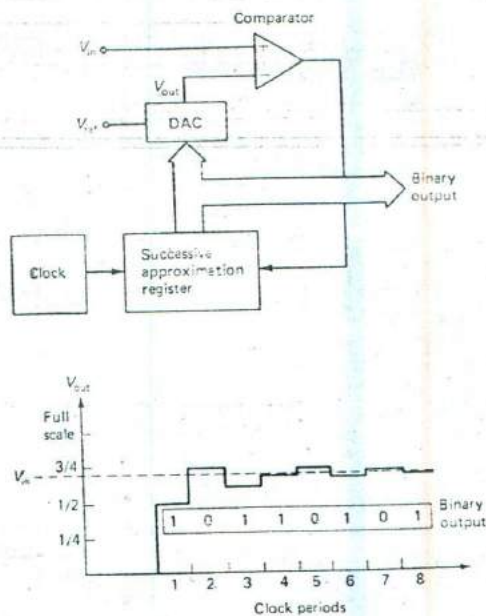

Fig. 13-8 Successive approximation converter.
Figure 13-8 shows the *successive approximation converter*, which is much faster. It produces a conversion delay of only N times the cumulative settling time. With an 8-bit DAC, the total delay will be eight clock periods regardless of the value of the analog input signal. The conversion process begins with all DAC inputs set to zero. The MSB bit is set at the first clock pulse. This produces a V_{out} to the comparator equal to one-half the full-scale value. If the comparator switches, the MSB is cleared, and the next most significant bit is set. If the comparator does not switch, the MSB remains set, and the next most significant bit is set. The process repeats N times as each bit is tested. A typical waveform at the DAC output as the conversion proceeds is illustrated by Fig. 13-8. Note that the binary output will show a 0 at every bit position where V_{in} was exceeded and the comparator switched.
The successive approximation technique can be implemented with a clock and a separate register, as shown in Fig. 13-8. It can also be realized without these circuits by interfacing a DAC to a microprocessor. The microprocessor can set each bit and test the output of the comparator. This software approach saves some hardware, but it burdens the processor during the conversion cycle. This is a typical compromise and is known as the *hardware/software tradeoff*.
The external reference voltage input shown in Fig. 13-8 may be used for *ratiometric conversions*; these types of conversions allow an A/D converter to produce an output that represents the ratio of the analog input to the reference input. Using ratiometric conversion, the circuit acts as an analog divider with a binary output. Precision measurements that are insensitive to the reference voltage are possible. Refer to Fig. 13-9; a potentiometer-type transducer is supplied by V_{ref} , which also supplies the reference input to the analog-to-digital converter. The equation shows that the binary count (N) is equal to the potentiometer ratio and is not sensitive to the reference voltage. Ratiometric conversion can also be used with resistive bridges by using an instrumentation amplifier between the bridge and the ADC.